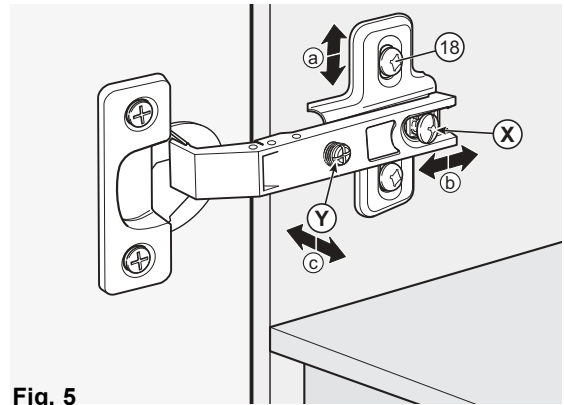

Fig. 5
- a. **Adjust door up or down:** Loosen 2 mounting screws #8 x 9/16" (Item 18), move hinge up or down, tighten screws. **Fig. 5.**
- b. **Adjust door in or out:** Loosen screw "X", move hinge in or out, tighten screw. **Fig. 5.**
- c. **Adjust door left or right:** Loosen screw "X" slightly, turn front screw "Y" in or out and then tighten screw "X". Check position of door and repeat, if necessary. **Fig. 5.**